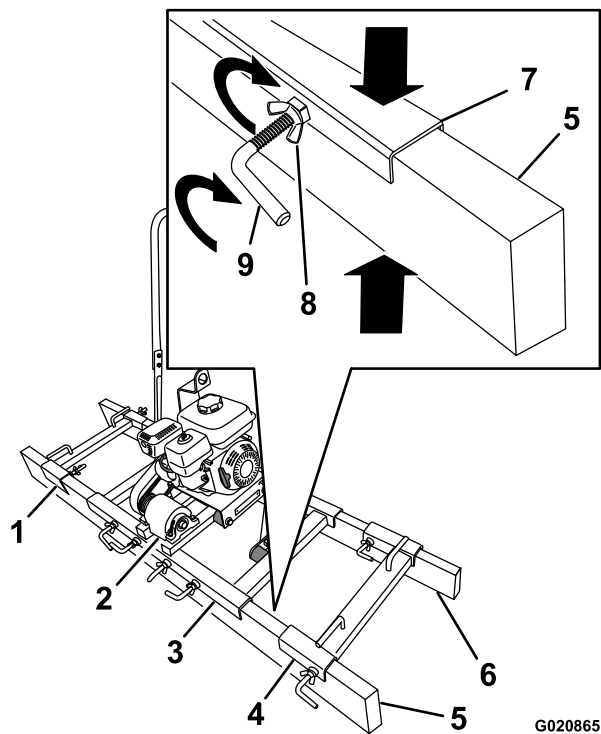

Figure 18
2. Raise the front of the machine 10 to 12 inches, and align the forward screed board to the forward U-channel of the frame (Figure 18).
3. Align the screed board to the U-channel and center the board the machine (Figure 18).
4. Lightly tighten the L-bolts in the forward U-channel (Figure 18).
5. Raise the rear of the machine 10 to 12 inches, and align the rear screed board to the rear U-channel of the frame (Figure 18).
6. Align the screed board to the U-channel, and center the board to the machine (Figure 18).
7. Secure the screed board to the machine by tightening all the L-bolts and wing nuts (Figure 18).
2. Align channels of the spreader to the screed boards and seat the spreader onto the boards (Figure 18).
4. Secure the spreader to the screed boards with the L-bolts and wing nuts (Figure 18).
2. Loosen the wing nuts and L-bolts that secure the spreaders to the screed boards, and remove the spreaders (Figure 18).
3. Raise the rear of the machine 10 to 12 inches, and remove the rear screed board from the rear U-channel of the frame (Figure 18).
4. Loosen the wing nuts and L-bolts that secure the rear screed board to the rear U-channel of the frame, and remove the screed board (Figure 18).
5. Raise the front of the machine 10 to 12 inches, and remove the forward screed board from the forward U-channel of the frame (Figure 18).
6. Loosen the wing nuts and L-bolts that secure the forward screed board to the forward U-channel of the frame, and remove the screed board (Figure 18).